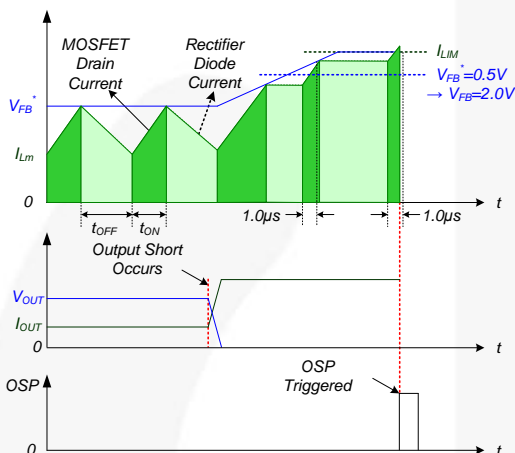

Figure 24. Output-Short Protection
4.3. Output-Short Protection (OSP): If the output is shorted, steep current with extremely high di/dt can flow through the SenseFET during the minimum turn-on time. Such a steep current creates high-voltage stress on the drain of the SenseFET when turned off. To protect the device from this abnormal condition, OSP is included. It is comprised of detecting V_{FB} and SenseFET turn-on time. When the V_{FB} is higher than 2.0 V and the SenseFET turn-on time is lower than 1.0 μ s, this condition is recognized as an abnormal error and PWM switching shuts down until V_{CC} reaches V_{START} again. An abnormal condition output short is shown in Figure 24.